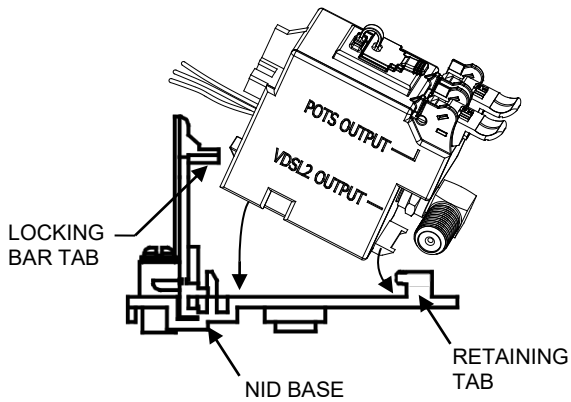

Figure 2
4. With the Balun turned so the wires are towards the primary protector side, slide the Balun locking tab under the NID retaining tab as shown in Figure 2.